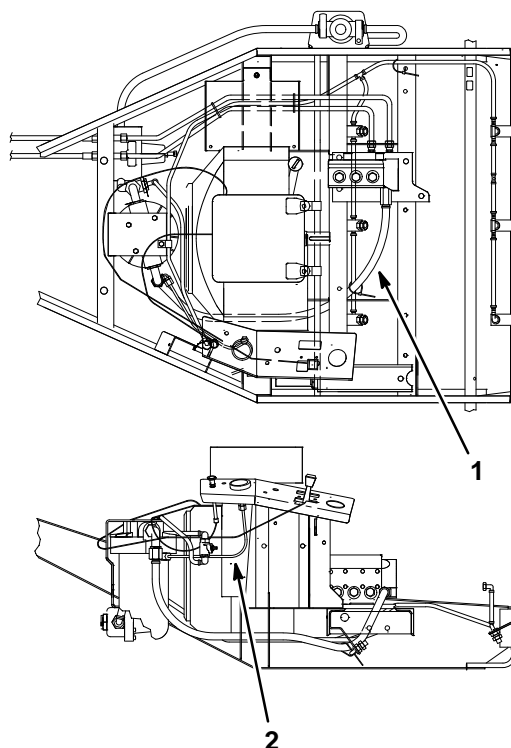

Figure 2
2. Remove the hose between the water filter and the water pump (Fig. 2).